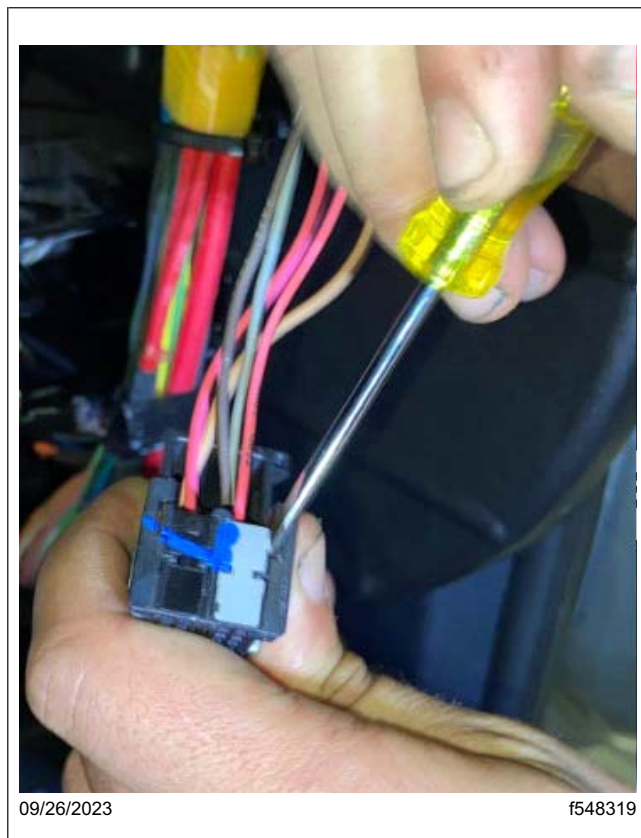
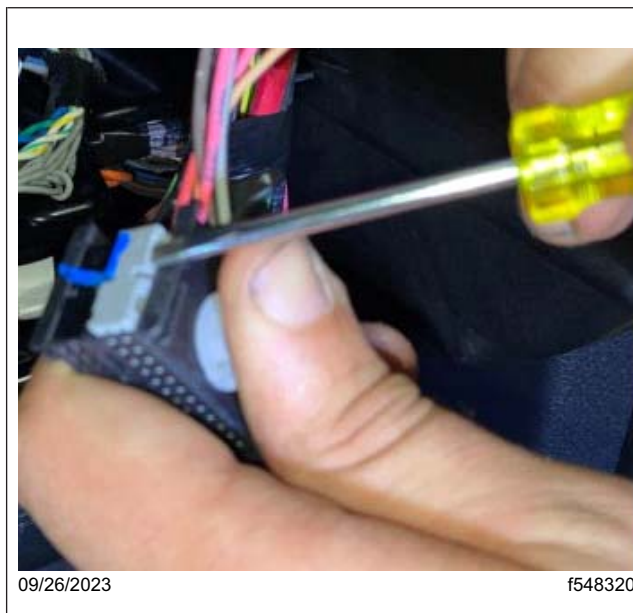

Fig. 51, Releasing the Gray Terminal Bank
Fig. 52, Prying Up the Gray Terminal Bank
- 13.9 Insert a small flat screwdriver in between the locking tab for the gray terminal bank and gently pry up on the gray terminal bank until it clears the locking tab. See Fig. 51 and Fig. 52.